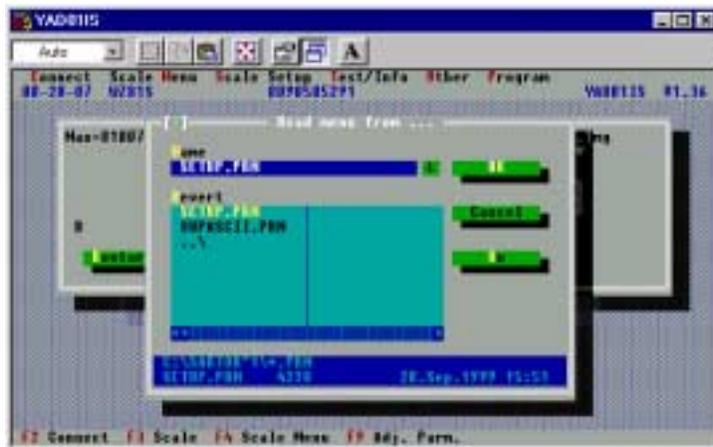

Figure 19
5. Press the **Tab** key until **SETUP.PRN** file is highlighted. Press the **Enter** key. See Figure 19.